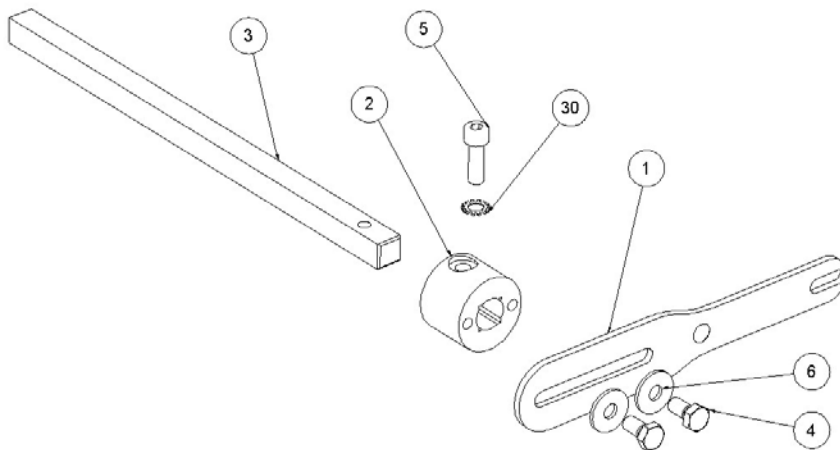

Figure. 1
together, they must be joined to a handle (1), through two M8 x 16 DIN 933 screws (4) and two washers DIN 9021 M8 (6), making sure that the countersink of the handle is on its inner face, -Fig. 1-.